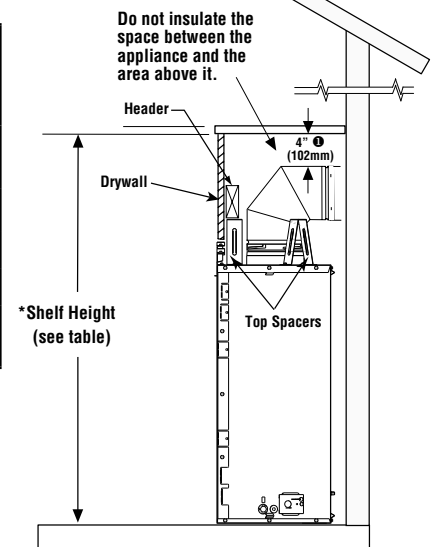

Figure 8 - Minimum Shelf Height Above Fireplace
Do not insulate the space between the appliance and the area above it (see Figure 8 on Page 8).
The minimum height from the base of the appliance to the underside of combustible materials used to construct a utility shelf in this fashion is shown in **Figure 8 on Page 8**.
* Note: 3 in. (75 mm) above any horizontal vent component. See Note ① in Figure 8.
To provide for the lowest possible shelf surface, the venting attached to the top vent should be routed in a way to minimize obstructions to the space above the appliance. Do not insulate the space between the appliance and the area above it (see **Figure 8**). The minimum height from the base of the appliance to the underside of combustible materials used to construct a utility shelf in this fashion is shown in the table in **Figure 8**.